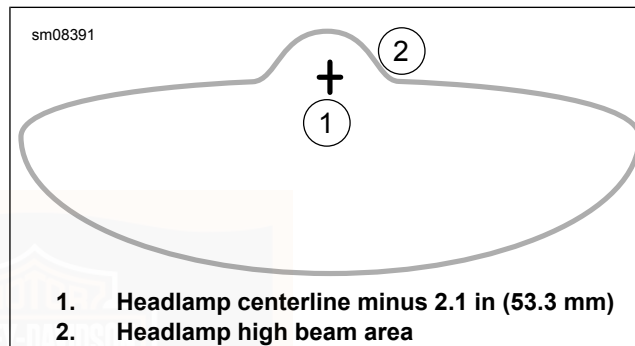

Figure 97. Headlamp Pattern: Frame-Mounted Fairing Models
- c. **LED, frame-mounted fairing:** See Figure 97 . Center of hot spot at mark with headlamp set to **high beam**.
- b. See Figure 97 . Adjust headlamp light beam.